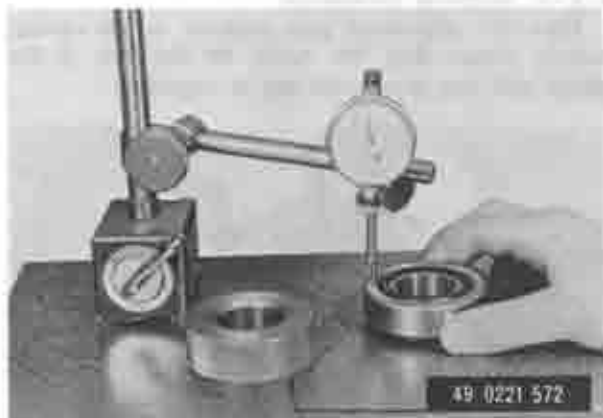

Fig. 9-22 Measuring bearing and bearing model heights
8. Place the bearing model and the rear pinion bearing on the surface plate and compare their heights as shown in Fig. 9-22.